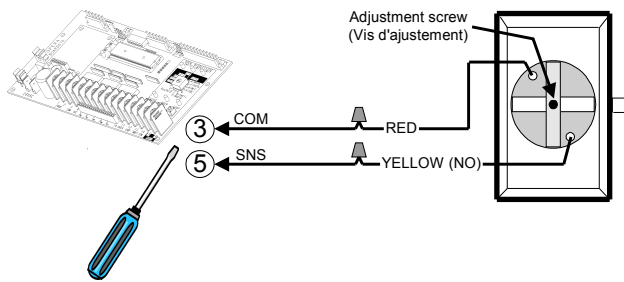
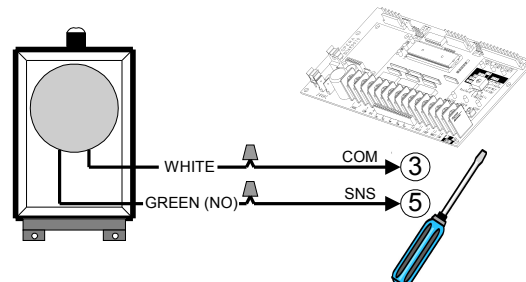

Figure 20 - AIRSWITCH 001 / 007
Figure 21 - AIRSWITCH 009
3. Use a coil cord or take-up reel to connect the air switch to the operator terminals. Install electric wires according to Figure 20 or Figure 21.